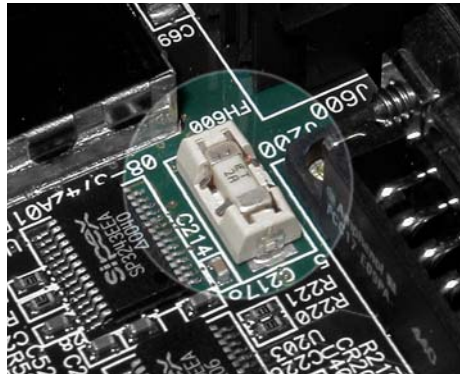

Figure 6-4.
4. Locate the fuse and fuse holder between the COM1 port and the power connector. See Figure 6-4 for details.